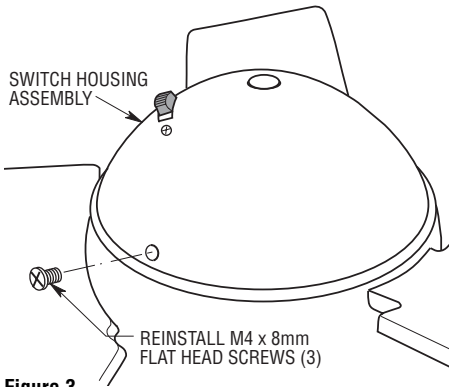

Figure 3
- 7. Position the switch housing assembly on the switch housing plate and align the holes in the switch housing assembly with the holes in the plate. Secure the switch housing assembly by installing the three previously removed M4 x 8mm flat head screws (Figure 3).